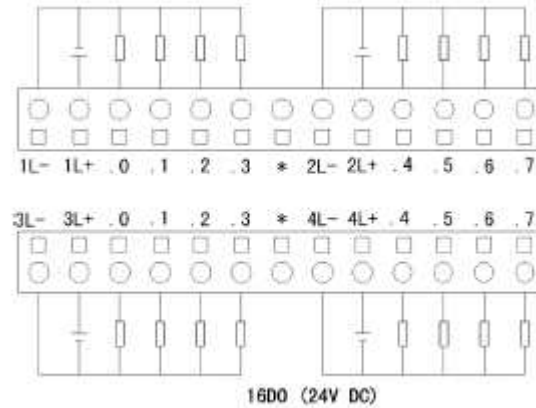

Figure 3-1-8 LM3221 Terminal Definition & Wiring Diagram
- 1L+ and 1L- of DO channel in Figure 3-1-8 connect the positive and negative end of 24VDC drive power supply under external load, 2L+,2L-,3L+,3L-,4L+ and 4L- connect the positive and negative end of another channel (or the same channel) 24VDC .